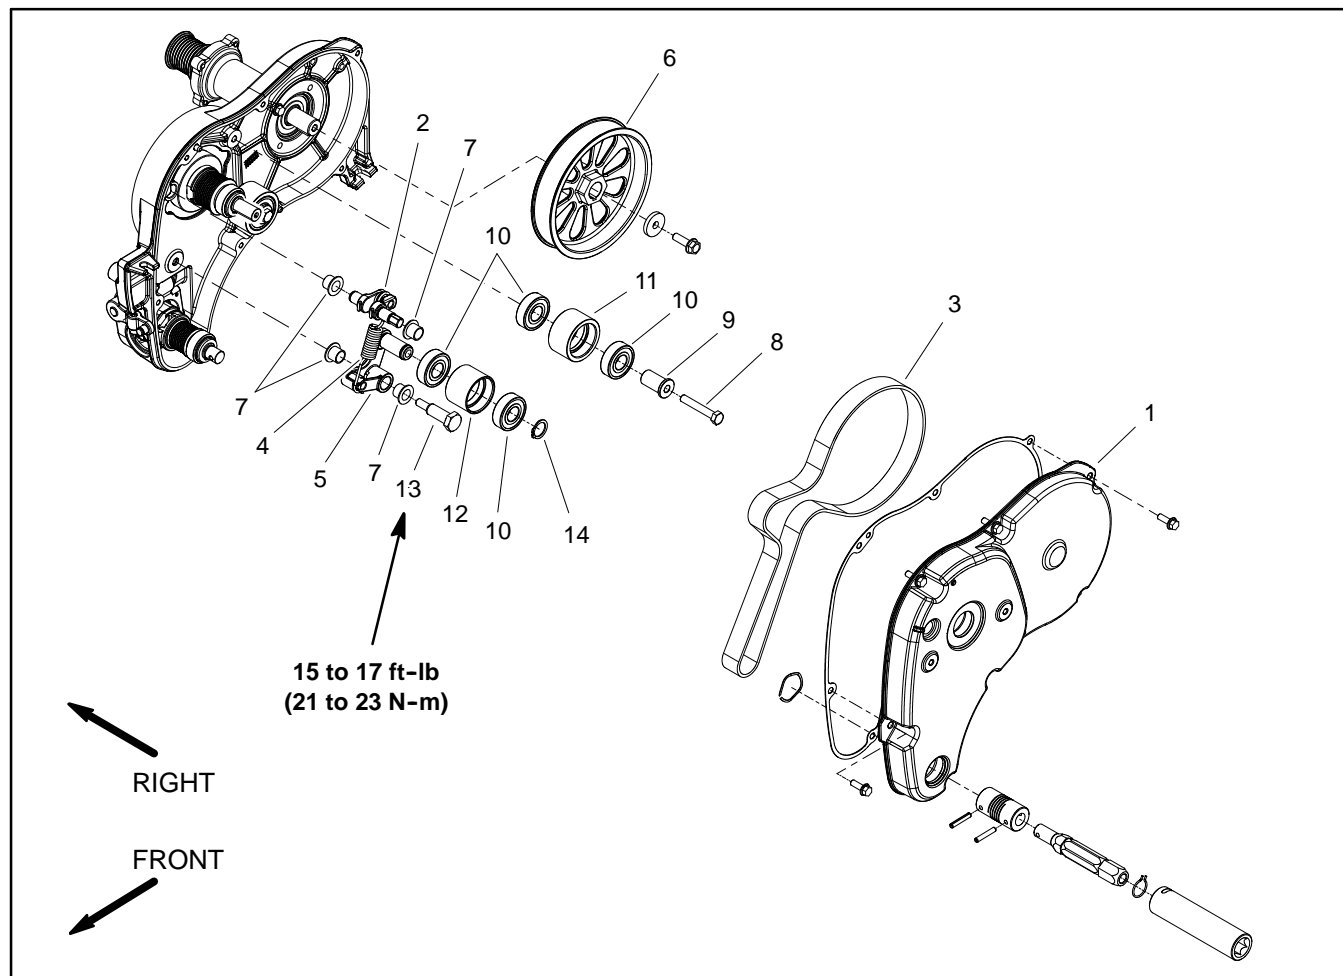

Figure 34
Disassembly (Fig. 34)
3. Disassemble idler system as required using Figure 34 as a guide. Discard ball bearings if they are removed from idler pulleys.
4. Check bushings (items 7 and 9) for wear or damage. Replace bushings if necessary. Bushings for engage/disengage shaft (item 2) are pressed into the transmission housing and cover.
Assembly (Fig. 34)
1. Assemble idler system as required using Figure 34 as a guide. Ball bearings that support idler pulleys are pressed into the pulleys.